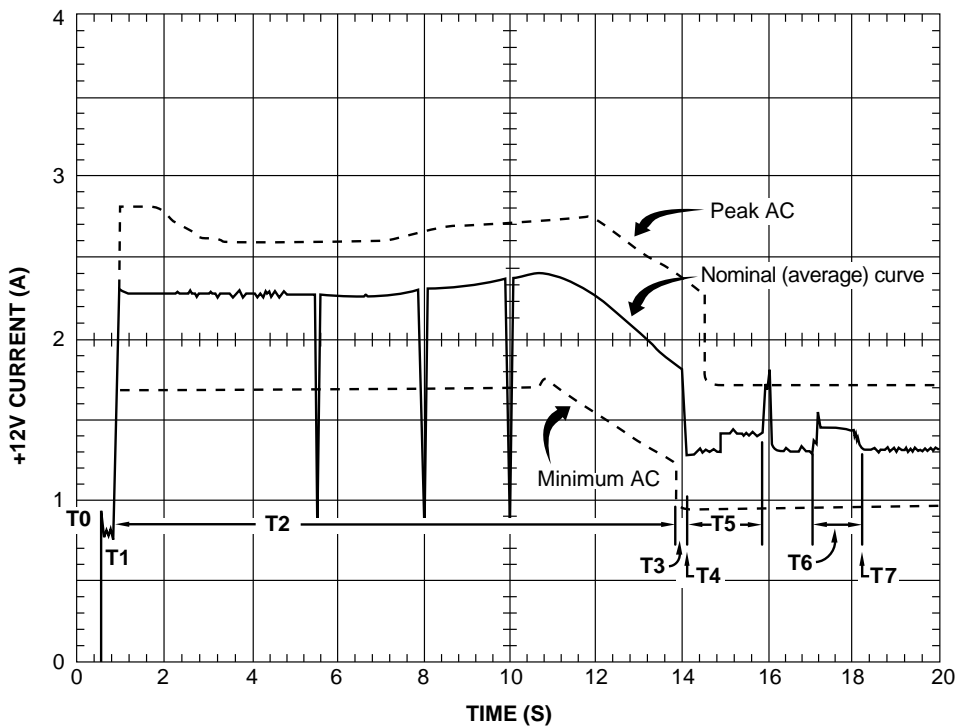

Figure 5. Typical Barracuda 4FC drive +12V current profile
- [3] See +12V current profile in Figure 5.
Figure 5 identifies the drive +12V current profile. The current during the various times is as shown: